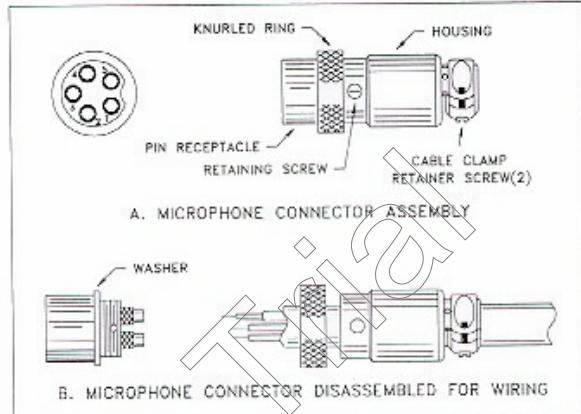

Fig 2. Microphone plug wiring
4. Feed the microphone cable through the housing, knurled ring and washer as shown Figure 2.
6. Be sure that the housing and the knurled ring of Figure 2 are pushed back onto the microphone cable before starting to solder. If the washer is not captive to the pin receptacle body, make sure that it is placed on the threaded portion of the pin receptacle before soldering.